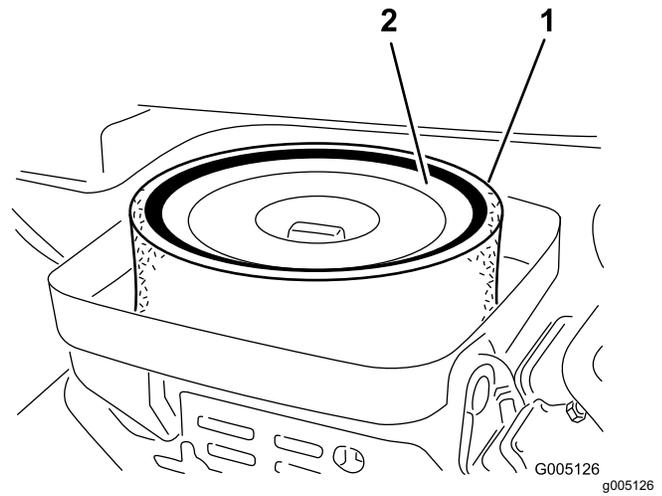

Figure 39
3. Remove the wing nut securing the elements to the air-cleaner body (Figure 39).
4. If the foam element is dirty, remove it from the paper element (Figure 39). Clean it thoroughly, as follows: